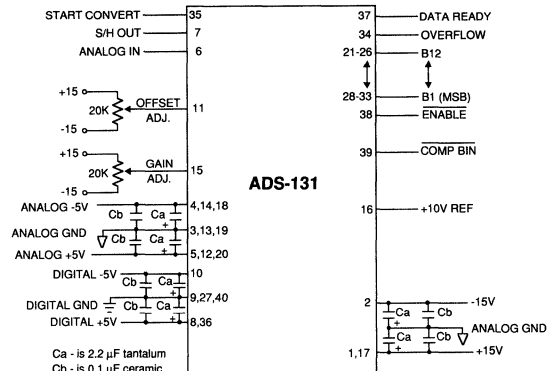

Figure 2. Typical ADS-131 Connection Diagram
1. Connect the converter per Figure 2.